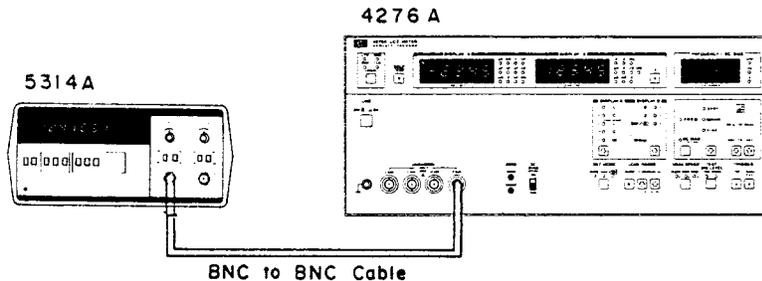

Figure 4-1. Test Frequency Accuracy Test Setup.
1. Connect the BNC-to-BNC cable to the 4276A UNKNOWN H_{CUR} terminal and to the 5314A's input as shown in Figure 4-1.